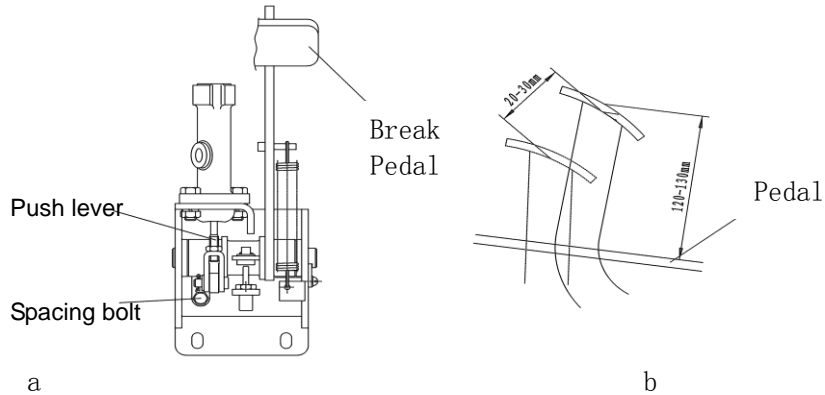

Figure 2-26
2.7 Adjusting the brake pedal as shown in Figure 2-26 (a)
- (1) Shorten the push lever;
- (2) Regulate the pedal spacing bolt and adjust the pedal height as shown in Figure 2-26 (b);
- (3) Adjust the length of the push lever until its front end contacts with the piston of master cylinder. Then turn back 1-2 circles to guarantee a free travel of the pedal between the 10mm-20mm;
- (4) Lock the nuts of push lever and the pedal spacing bolt.